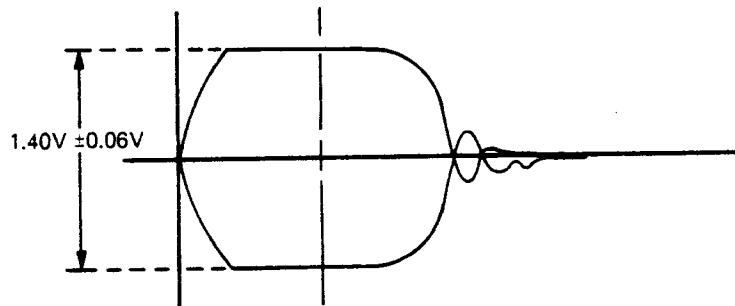

Figure 6-10. Current Waveform After Adjustment of R111
- (1) Select Channel 1
- (2) Observe the current waveform at TP15 (Figure 6-10).
- (3) Acceptable limits:
- (1) Observe the current waveform at TP15.
- (2) Adjust potentiometer R111 until the waveform observed has a peak-to-peak amplitude of 1.40v (Figure 6-10).